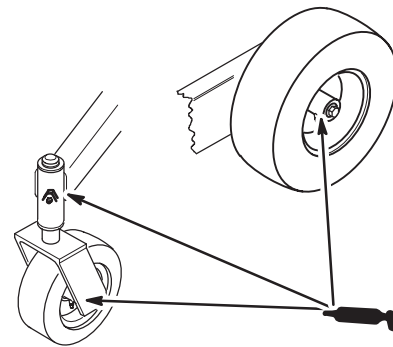

Figure 32
- Lubricate the front wheel bearings and front spindles until grease begins to ooze out of the bearings (Fig. 32).
- Remove rear wheel grease cap. Lubricate the rear wheel bearing (Fig. 32).